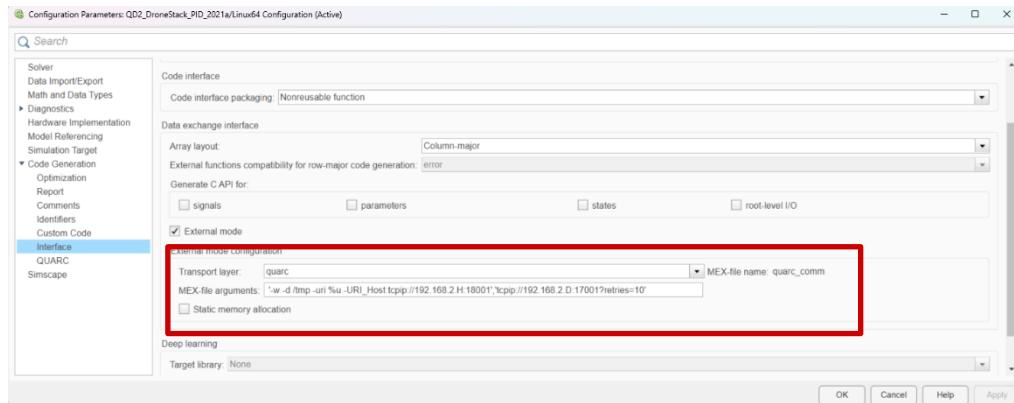

Figure 3. Model Configuration Parameters in the Drone Stack Model
- Expand **Code Generation** on the left side of the window, click on **interface** and set the **MEX-file arguments** (Figure 3) as follows